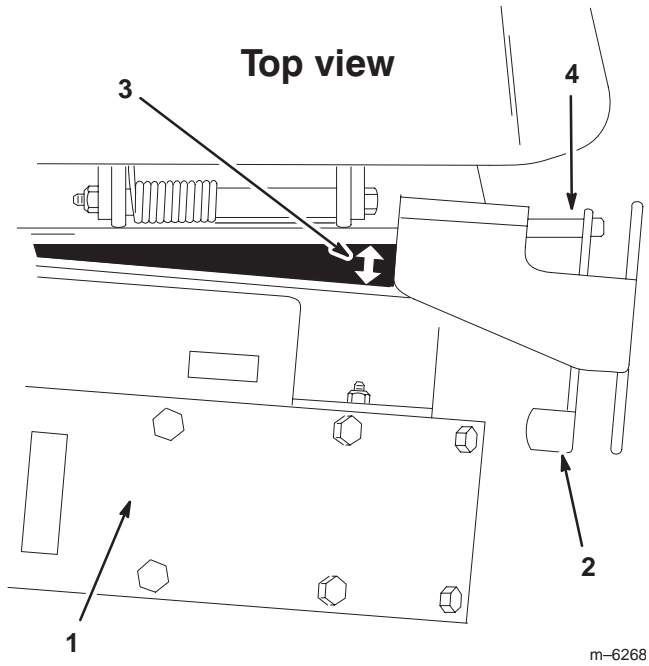

Figure 34
1. There must **not** be a gap between the mounting plate the the blower assembly (Fig. 34). If there is a gap, proceed to step 3 and shorten the latch.